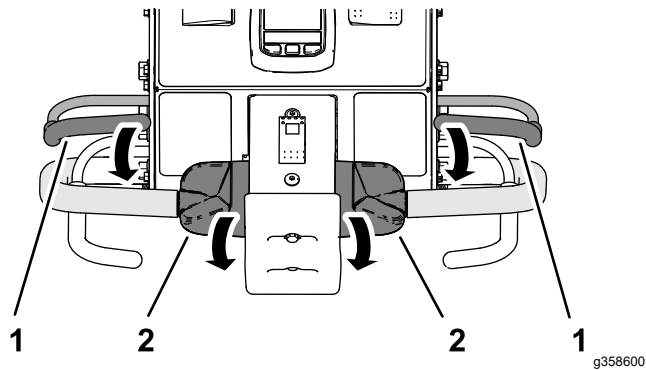

Figure 33
2. Hold either operator-presence bail to the handlebar and rotate the top of the traction control forward (Figure 33).